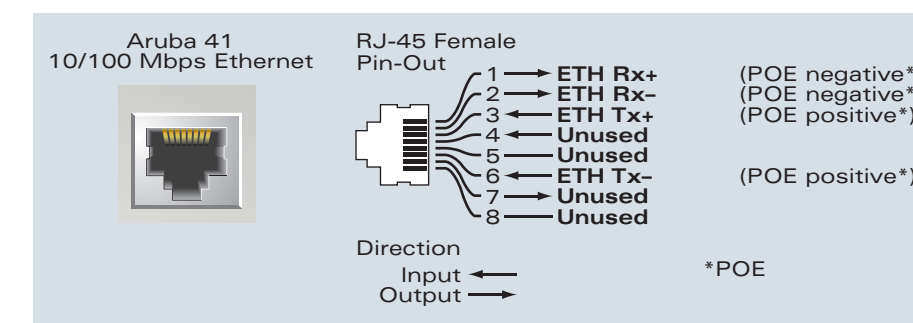

Figure 0-2: Aruba 41 FE Port
The 10/100 Mbps Ethernet (FE) port is located on the right-hand side of the Aruba 41 and has an RJ-45 female connector. The port pin-outs are shown in Figure 0-2: